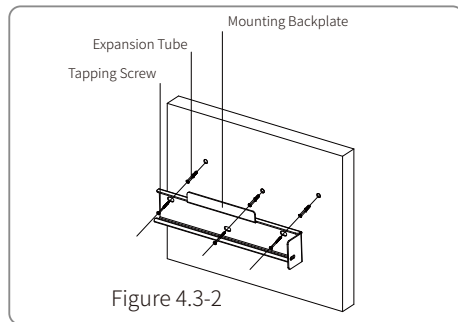

Figure 4.3-2
- Use the expansion screws in the accessory pack to fix the back plate on the wall, as shown in Figure 4.3-2.